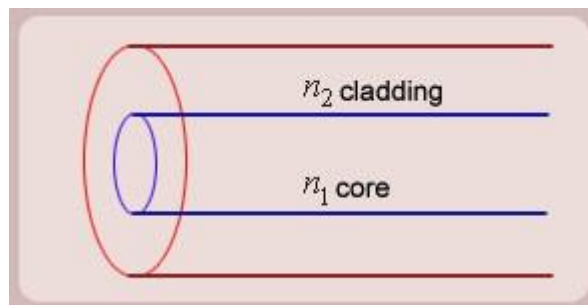

Figure1: Schematic of an optical fiber
5. The optical fiber consists of two concentric cylinders; the inside solid cylinder is called the **core** and the surrounding shell is called the **cladding**. (See Fig 1)